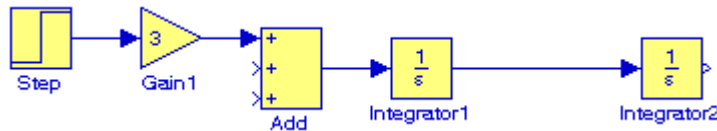

Figure B.11. File `Equation_1_26` with the addition of two integrators
- From the **Commonly Used Blocks** of the **Simulink Library Browser**, we choose the **Integrator** block, we drag it into the `Equation_1_26` model window, and we connect it to the output of the **Add** block. We repeat this step and to add a second **Integrator** block. We click on the text “Integrator” under the first integrator block, and we change it to **Integrator 1**. Then, we change the text “Integrator 1” under the second Integrator to “Integrator 2” as shown in Figure B.11.